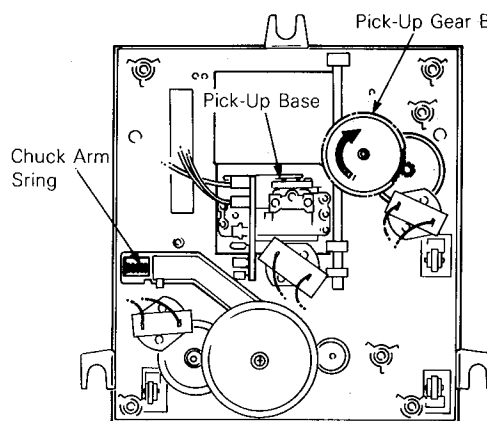

Fig. 5
- Remove the Chuck Arm Spring. (Fig. 5)